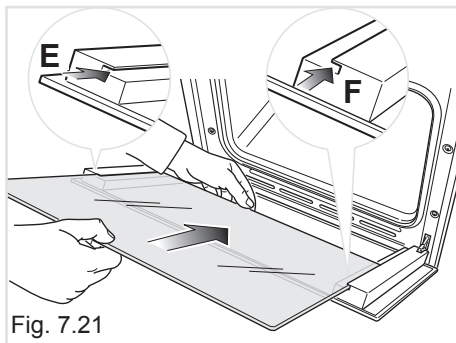
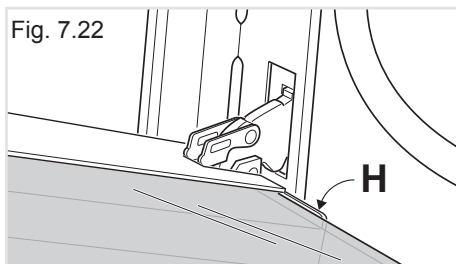

Fig. 7.21
Fig. 7.22
- Insert the pane in the left "E" and right "F" slide guides (fig. 7.21), and gently slide it to the retainers "H" (fig. 7.22).